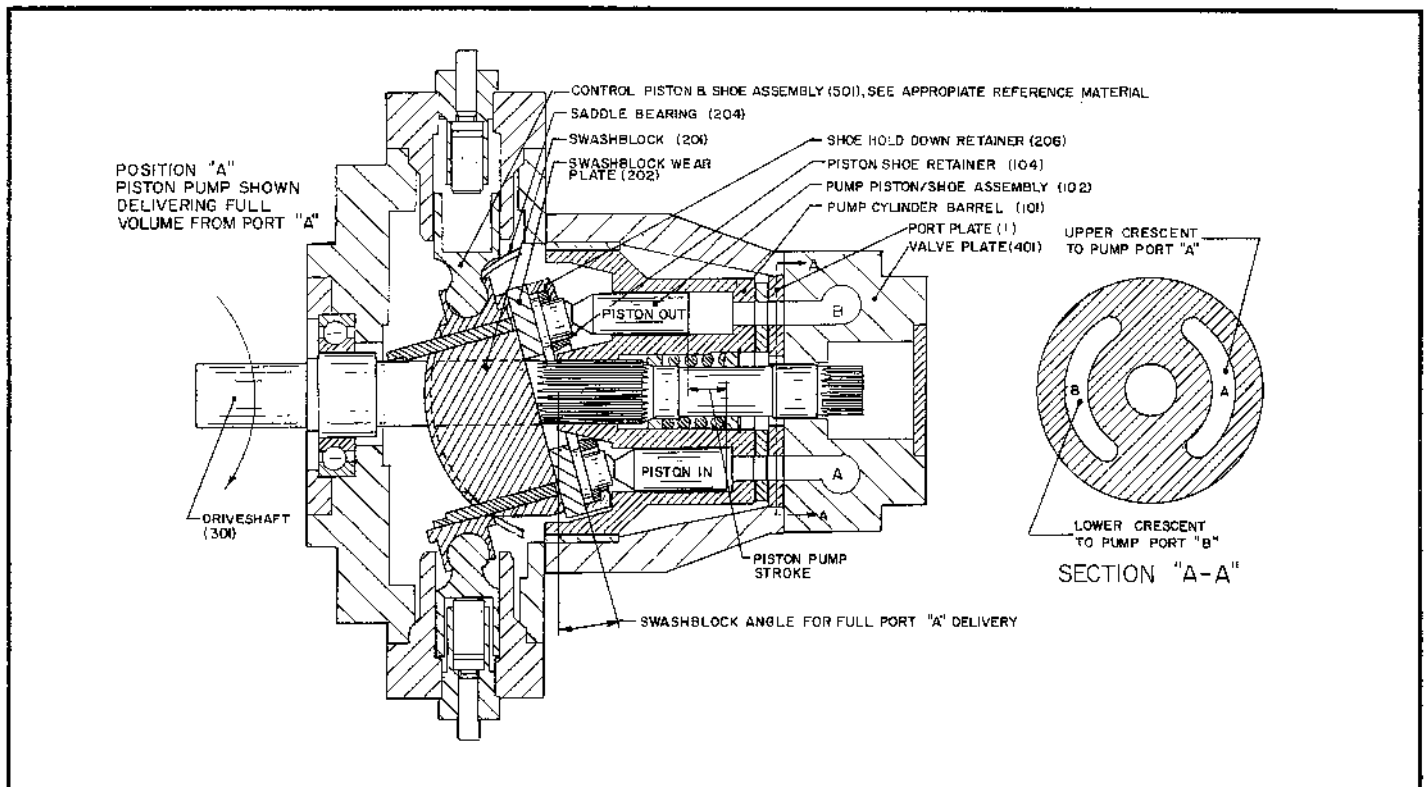

Figure 2. Position "A" (SV-12110-L)
SEE FIGURE 2. POSITION A. Rotating driveshaft (301) clockwise turns the splined pump cylinder barrel (101) which contains the pumping pistons (102). A piston shoe retainer (104) and a shoe hold down retainer (206) holds the piston shoes against the swashblock wear plate (202). When the cylinder barrel is rotated, the pistons moves in and out of their bores as the shoes "ride" against the angled swashblock wear plate.